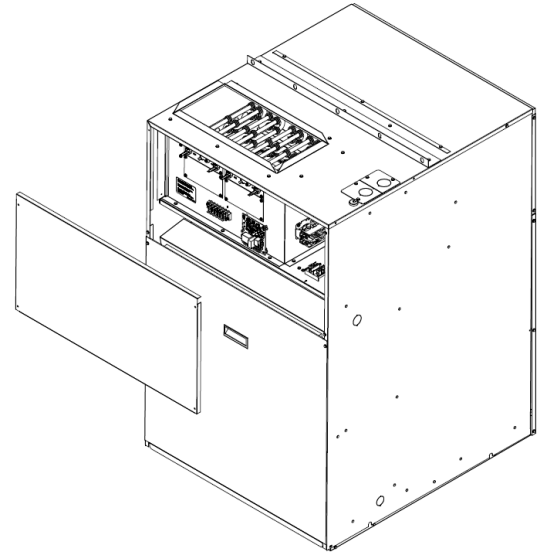

FIGURE 26 – Front Top Panel Removal
- 2) Remove front top panel from the unit. See **FIGURE 26 – Front Top Panel Removal**.